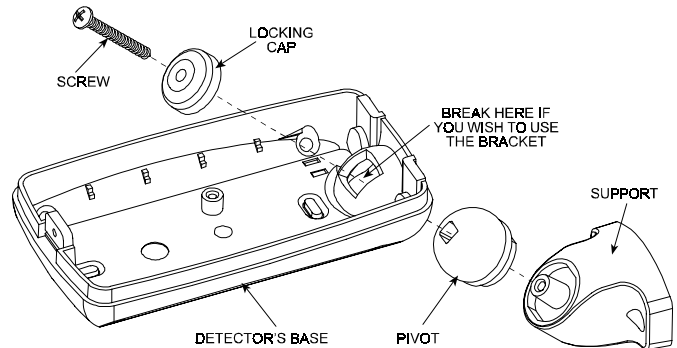

Figure 4. Attaching the Bracket
- C. Punch out the large knockout in the round bulge at the top part of the base (see Figure 4)
- D. Assemble the bracket as shown in Figure 4.